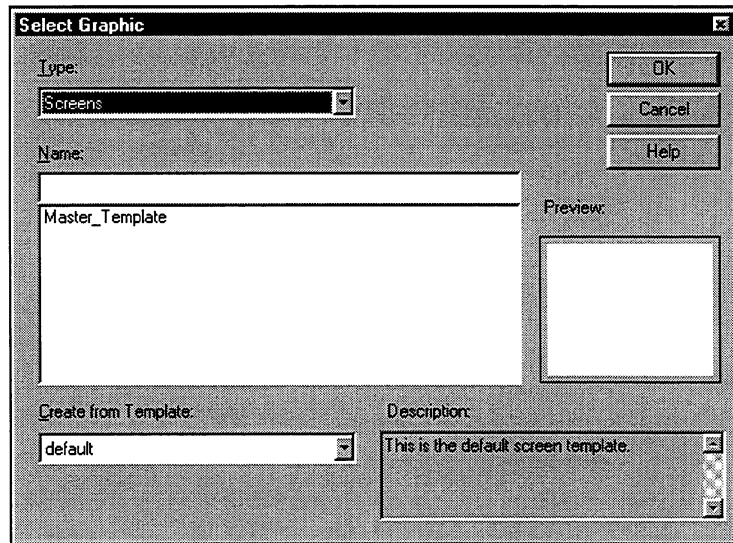

Figure 6-2. Select Graphic Dialog Box
1. Select the Graphic Editor command on the Tools menu or the Graphic Editor button. The Select Graphic dialog box opens, as shown in Figure 6-2.